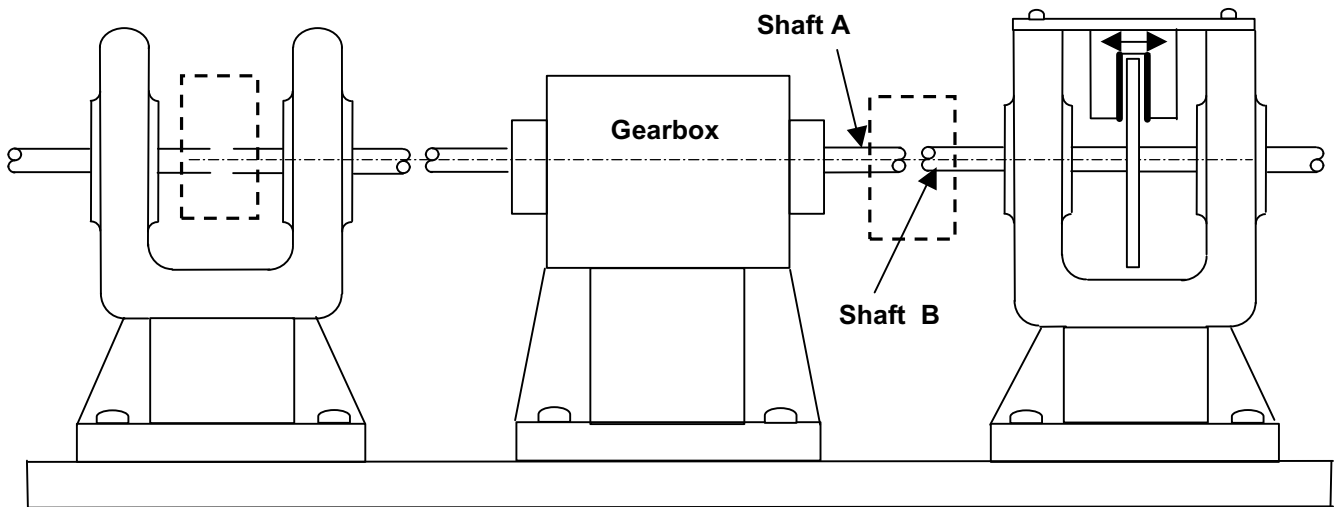

Fig. 3(a)
- (b) Fig. 3(a) shows a prototype test rig used to investigate the suitability of different gear train combinations for a gearbox and the amount of abrasion taken place with carbon fibre pads used on disc and drum brakes. On the right hand side a disc brake system is positioned in the housing and on the left side a drum brake system.